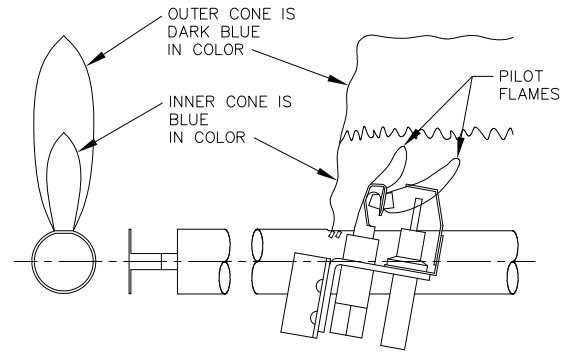

Figure 9.1: Intermittent Pilot and Main Burner Flame
3. Check the pilot and main burner flame. See Figures 9.1 and 9.2. The pilot should provide a steady flame enveloping $\frac{3}{8}$ " to $\frac{1}{2}$ " (1 cm to 1.2 cm) of the flame sensor. If required, adjust the pilot as stated in the gas valve manufacturer's instructions. The main burner flame inner cone should be approximately $1\frac{1}{2}$ " (4 cm) high and should have a very sharp, blue color characteristic.